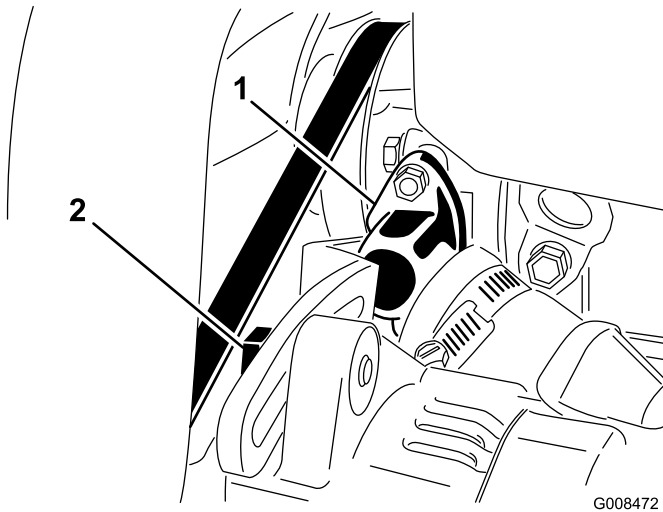

Figure 52
2. Loosen bolt securing brace to engine and bolt securing alternator to brace (Figure 52).
1. Loosen bolts securing brace to engine and alternator to brace (Figure 52).